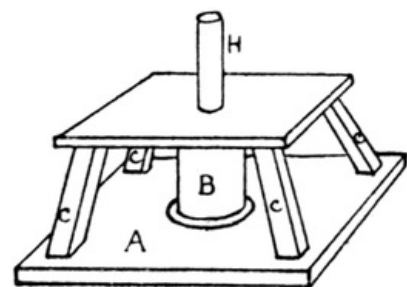

FIG. 306
**Windmill** (Plate XII). Cut a square of wood, side 5 inches. This is the stand A in Fig. 306. To the centre of this glue a large reel, B.
Now glue a piece of round rod into the reel (H in Fig. 306) so that it projects about an inch. Place the mill on this stand, so that the rod passes through the hole in the bottom of the mill. The mill can be turned round in any direction so that the sails may catch the wind. Make a small ladder to reach the door.